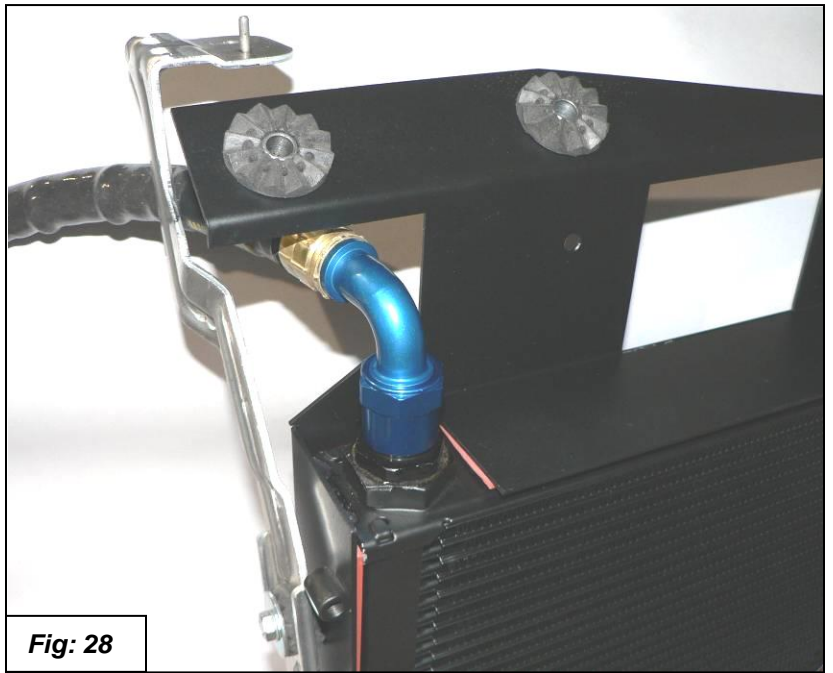

Fig: 28
28. Loosely install the oil line with the 90° fittings on each end. One end has a swivel and one end doesn't. Install the end without the swivel onto the topside of the oil cooler. Do not tighten yet. See figure 28.